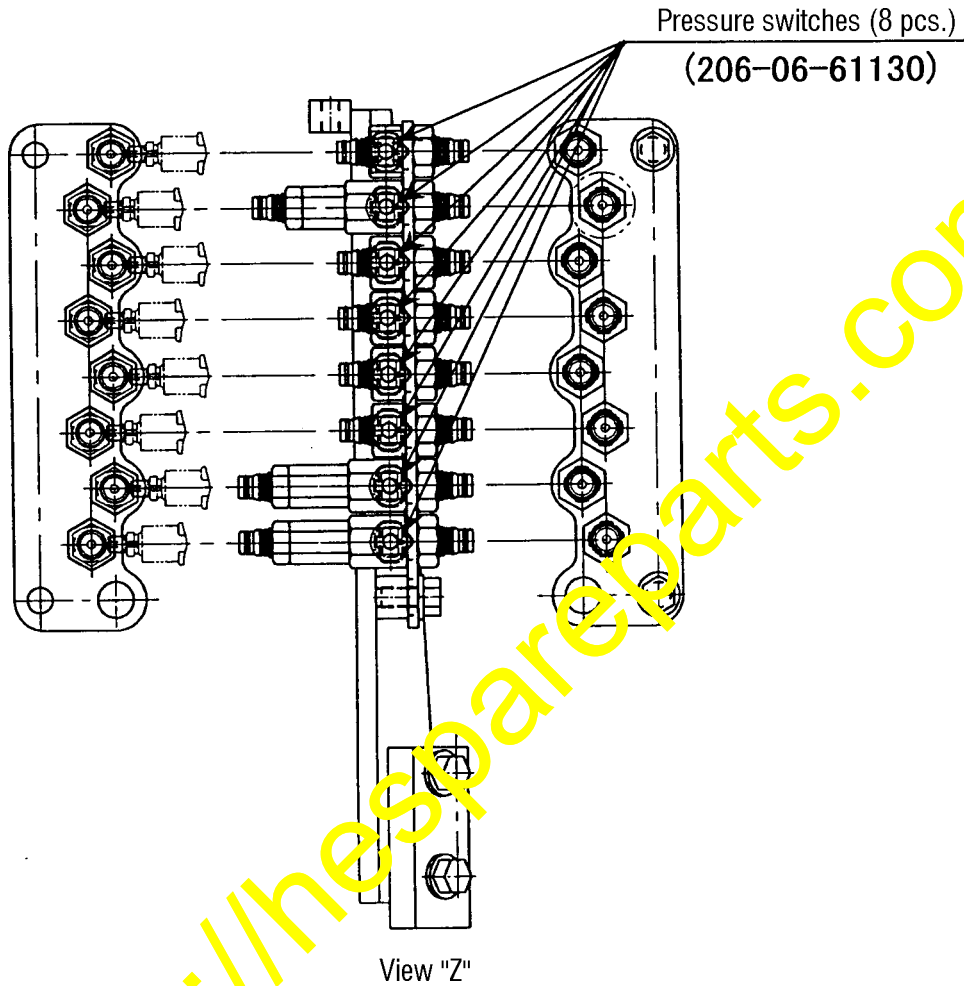

Fig. 3
- 3) Holding the pressure switch block with a vice, etc., remove the pressure switch for re-use. Wash and dry the pressure switch after removing it. Discard other removed parts than the above. (Refer to Fig. 3.)